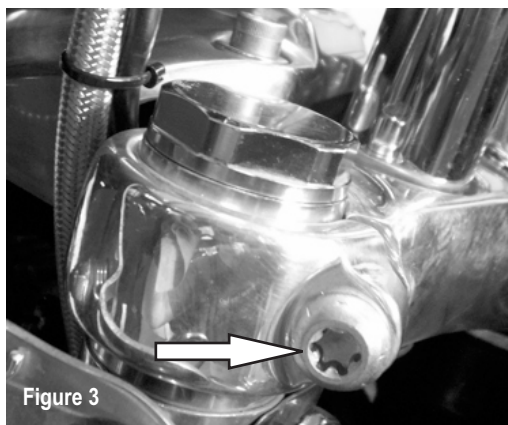

Figure 3
- Loosen the pinch bolts on the upper triple clamp. Failure to do so will make fork cap removal very difficult and potentially damage the caps and or fork tubes. **Figure 3**